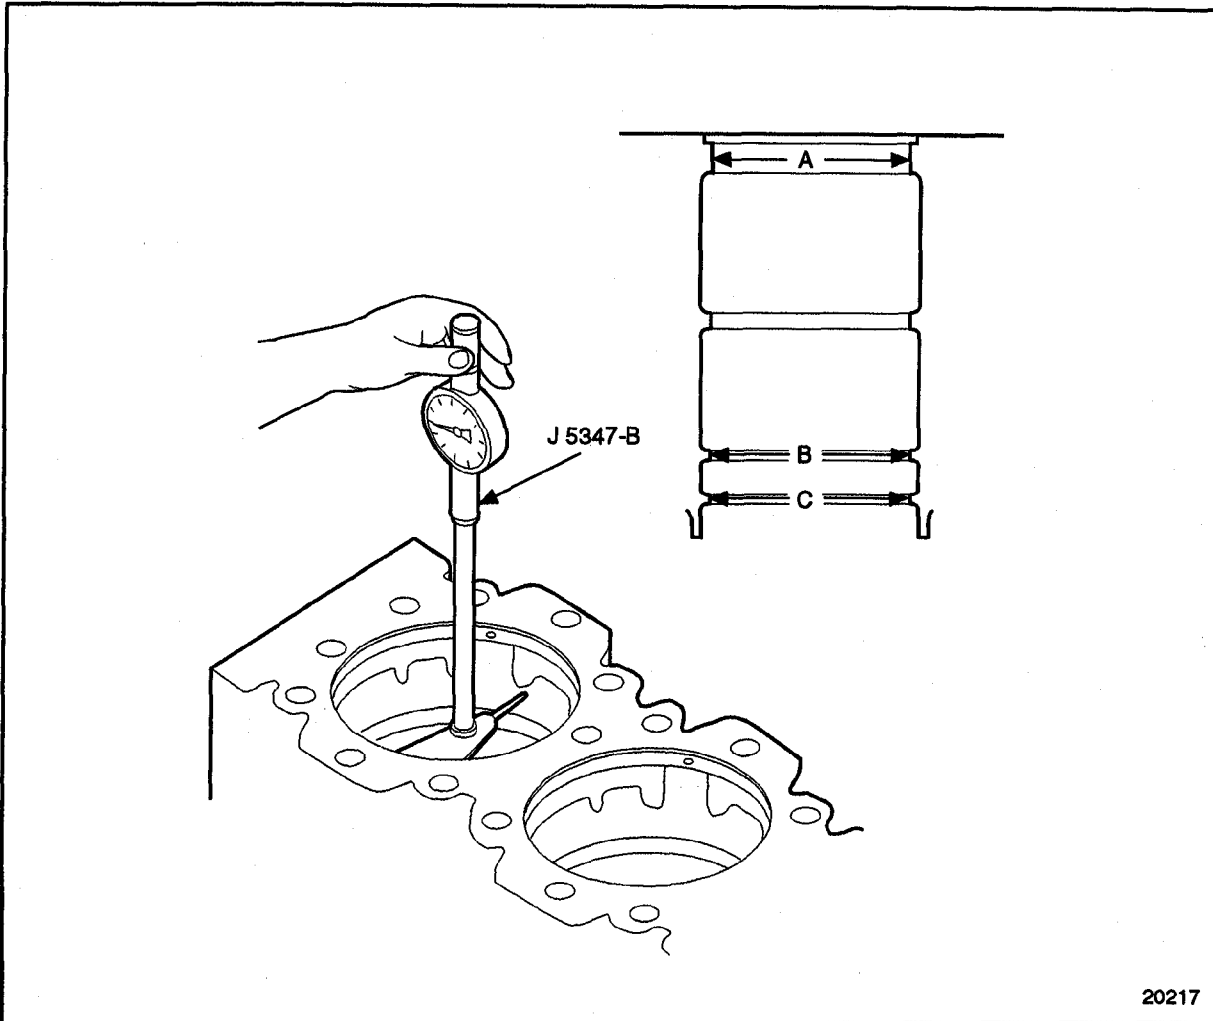

Figure 1-13 Maximum Cylinder Block Bore Diameters by Location (After Clean-up)
3. Measure cylinder block bore, at the positions on axis 90 degrees apart. See Figure 1-13. If the diameter does not exceed the dimensions listed in Table 1-1, the block may be reused.